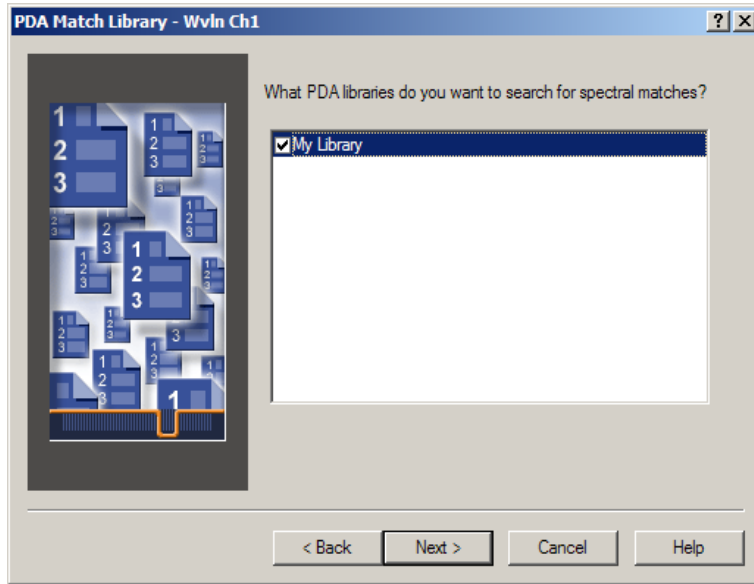

Figure 4-26 PDA Match Library Page
14. Click **Next** to go to the PDA Match Library page (Figure 4-26).